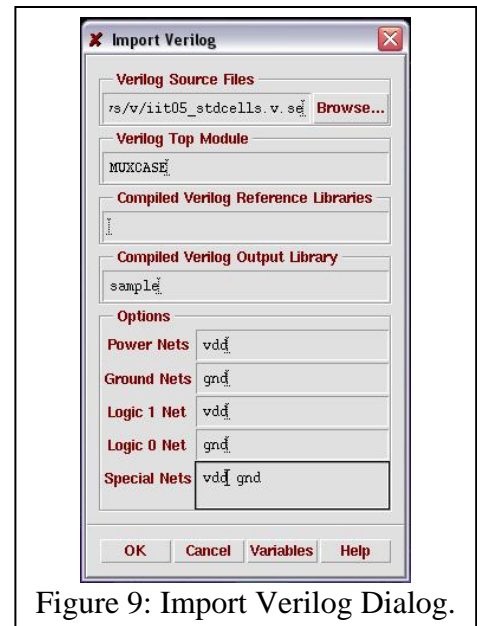

Figure 9: Import Verilog Dialog.
10. Click **OK** to exit the *MultiBrowse* window. An *Import Verilog* window will open (Fig. 9).